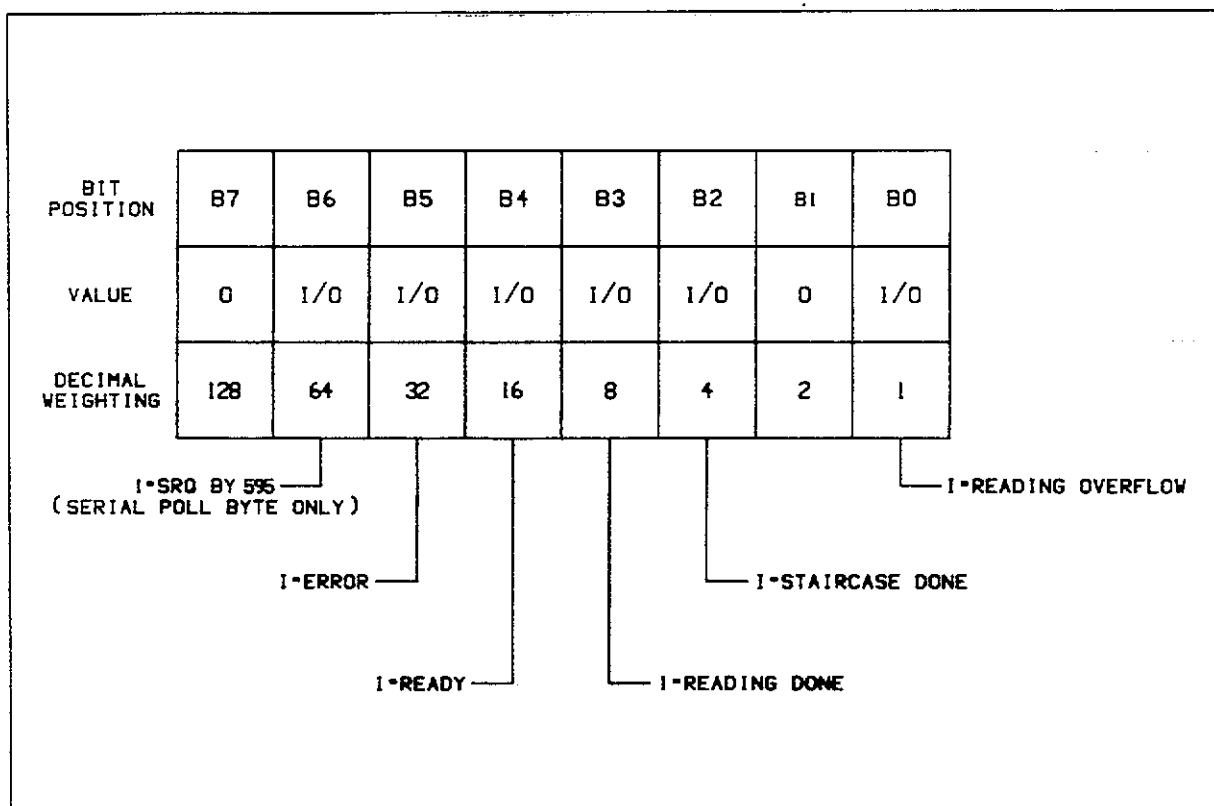

Figure 4-7. SRQ Mask and Serial Poll Byte Format
**Description** **SRQ Mask**—The Model 595 uses an internal mask to determine which conditions will cause an SRQ to be generated. Figure 4-7 shows the general format of this mask, which is made up of eight bits. The SRQ mask has the same general format as the serial poll byte (described below) except for the fact that bits 6 and 7 are not used in the SRQ mask.
**Serial Poll Byte Format**—The serial poll byte contains information relating to data and error conditions within the instrument. The general format of this status byte (which is obtained by using the serial polling sequence, as described in paragraph 4.8.8) is shown in Figure 4-7. Note that the various bits correspond to the bits in the SRQ mask as described above.